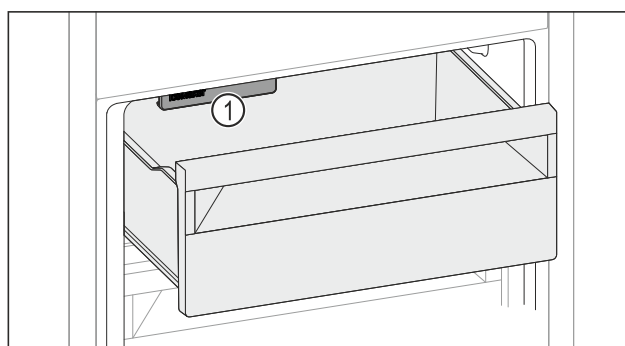

Fig. 160
- ▶ Observera IceMaker Fig. 160 (1).